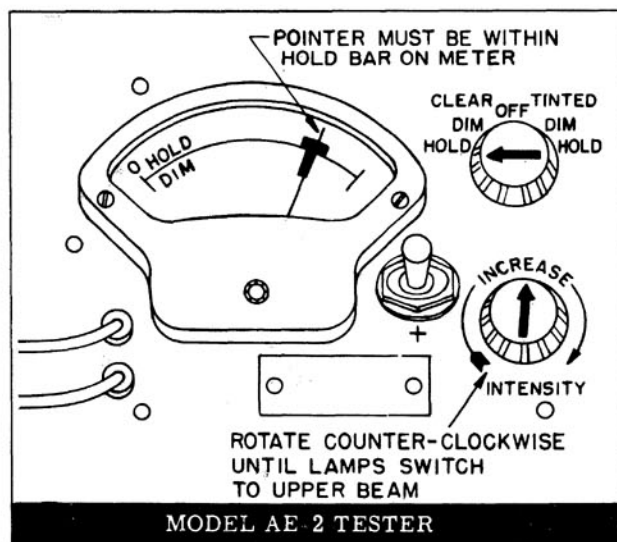

Fig. 12-58 Hold Sensitivity Test
10. Slowly turn Intensity Rheostat counterclockwise just to point where headlamps switch to upper beam. The meter pointer should now read in the Hold Sensitivity Adjustment Bar on the meter scale. (Fig. 12-58)
4. Adjust tester Intensity Rheostat until meter pointer is at center of Hold Sensitivity bar. (Fig. 12-58)